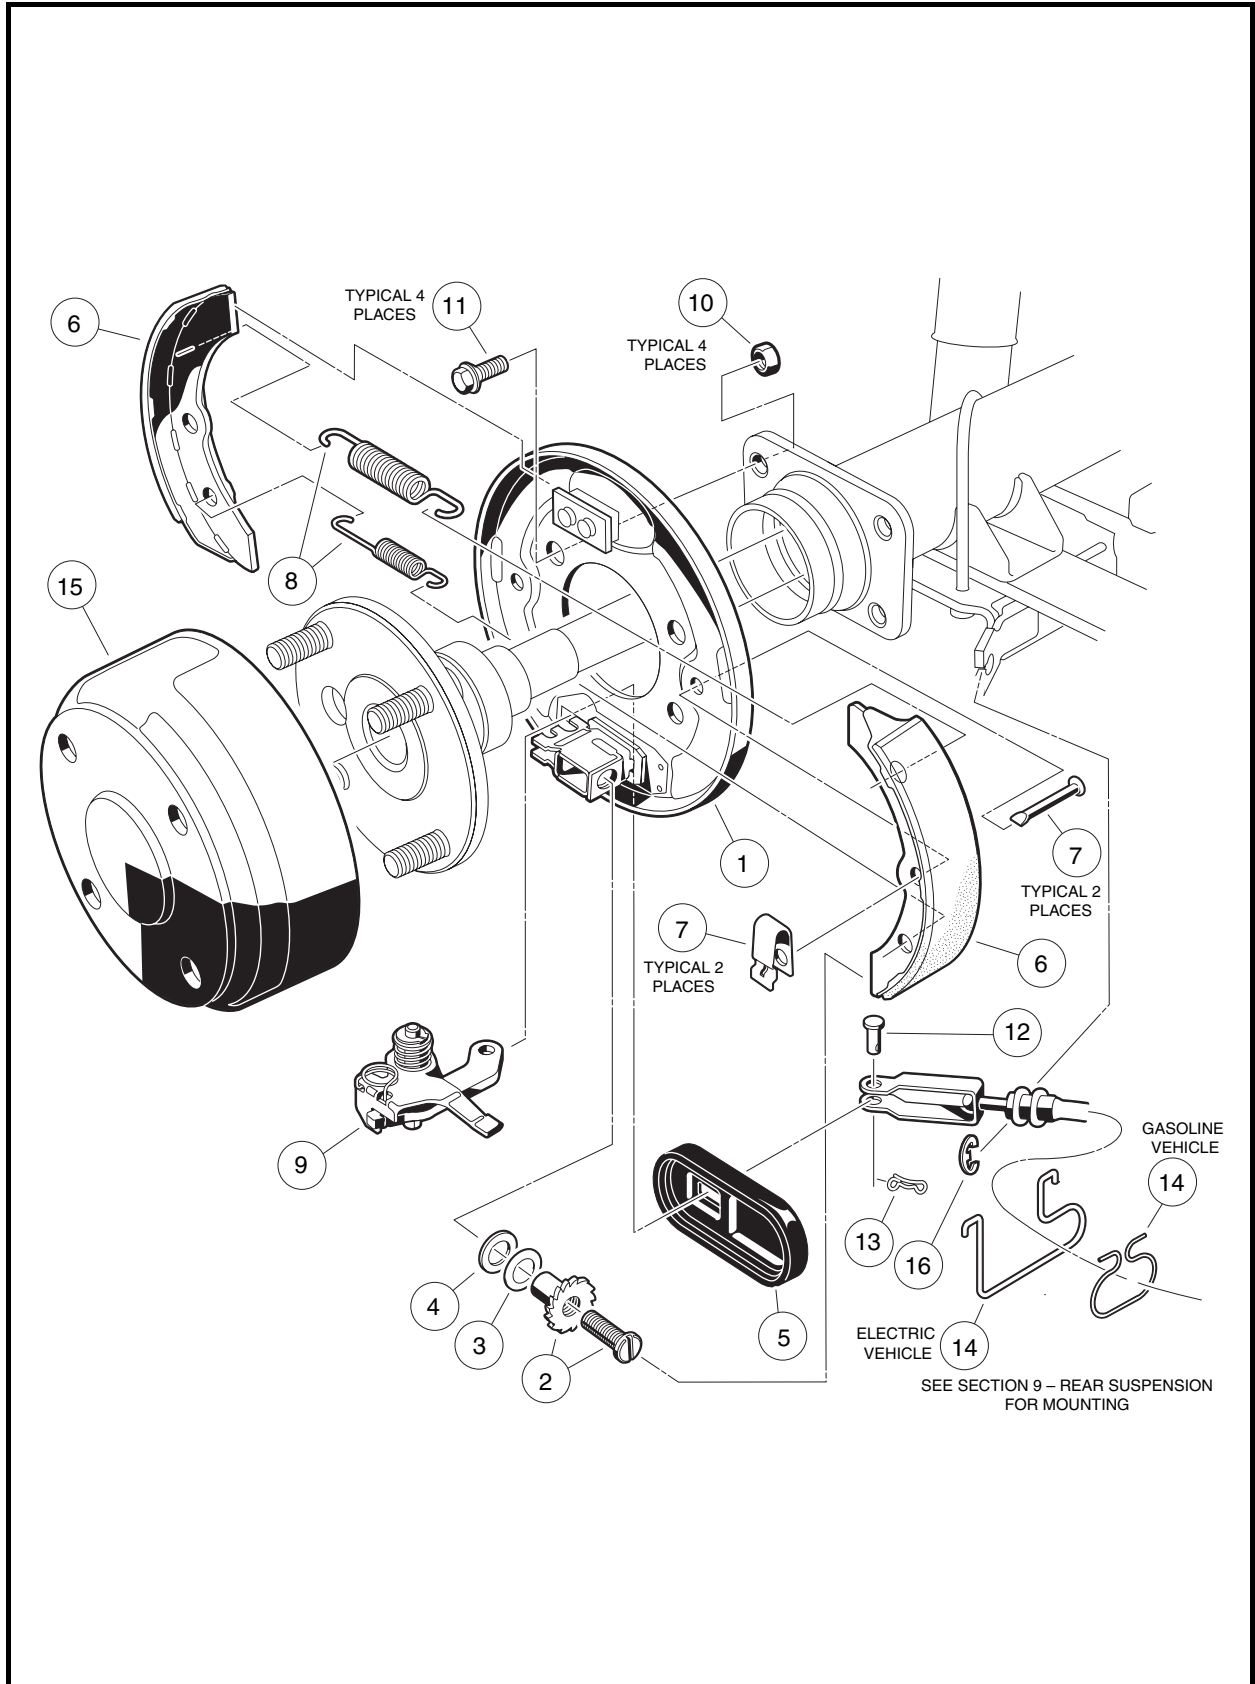

Figure 6-4 Self-adjusting Wheel Brake Assembly
6. Remove bow-tie pin (13) and clevis pin (12) from brake cable (**Figure 6-4, Page 6-3**).
7. Remove four bolts (11) and lock nuts (10) that mount the brake assembly to the transaxle (**Figure 6-4, Page 6-3**).
2. Be sure bolts (11) (CCI P/N 1014153) and new lock nuts (10) (CCI P/N 1013924) are used to mount the brake assembly (**Figure 6-4, Page 6-3**).